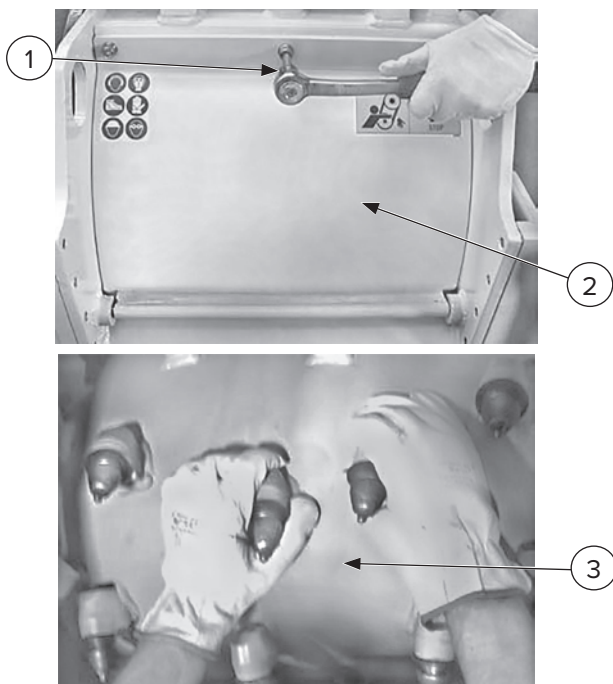

Figure 12
4. Remove the screws [Figure 12, Item 1] and open the drum access panel [Item 2].